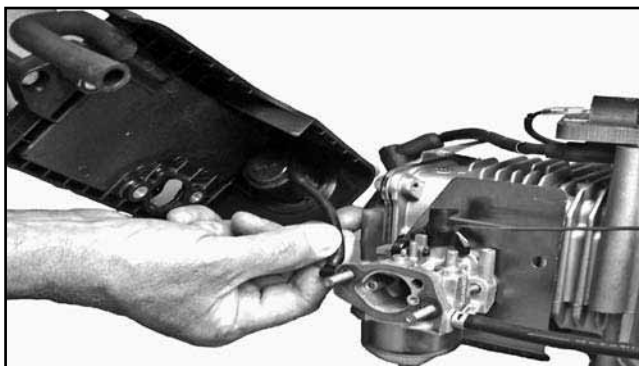

Figure 4-3. Primer Bulb Hose.
5. Remove the air cleaner base by swinging it out to the left and disconnecting the primer hose (if equipped) from the carburetor. See Figure 4-3.
Primer Bulb Hose - Make sure the hose is not cracked kinked or damaged, and attached to both the air cleaner base and the carburetor. See Figure 4-3.
1. Reconnect the primer bulb hose (if equipped). See Figure 4-3.